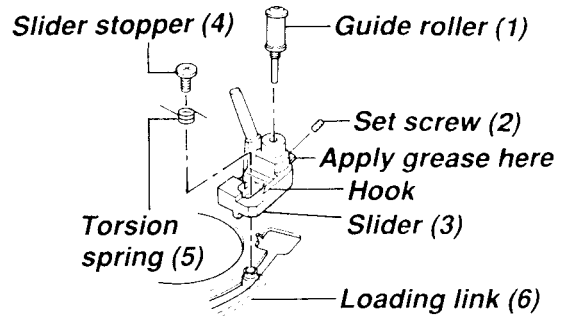

Fig. 4-3-5
1. Loosen the set screw (2), shown in the Fig. 4-3-5.
2. Turn the guide roller (1) counterclockwise and remove it.
3. Remove the slider stopper (4) and the torsion spring (5), shown in Fig. 4-3-5.
5. Replacement is made by reversing above procedures. When mounting the torsion spring and the slider stopper, hold the rear side of the loading link (6), shown in Fig. 4-3-5 from the cylinder mounting hole.
- When the slider is replaced, always apply grease to the slider receptacle as shown in Fig. 4-3-5.
3. Remove the slider stopper (4) and the S, T-loading torsion springs (5) shown in Fig. 4-3-5. with the slider set to the unloading state.
4. When replacing, use above steps in reverse order. Remount the S, T-loading torsion springs while holding the rear side of the loading link (6), shown in Fig. 4-3-5.